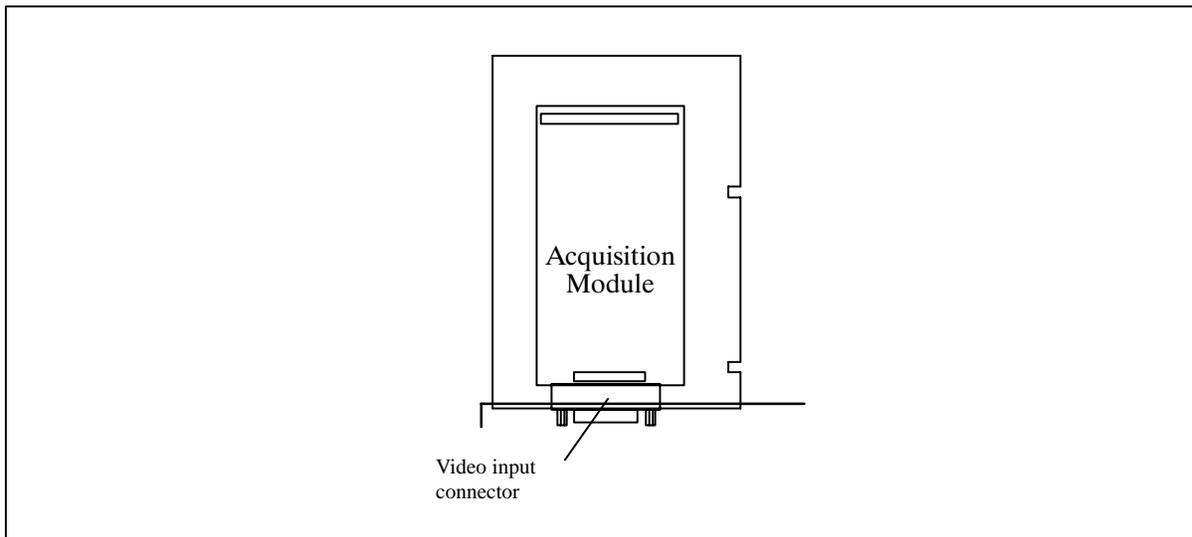

Figure 1. IC-PCI Board
Figure 1 illustrates the IC-PCI board, with an Acquisition Module (AM) installed.